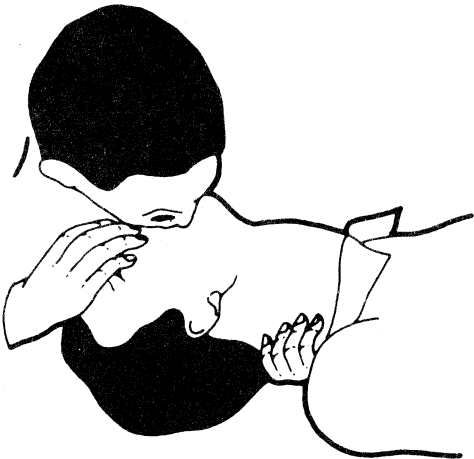

Figure 3.
- b. Open your mouth wide and take a deep breath. Make a tight seal with your mouth around the victim's mouth and blow into the victim's mouth (See Figure 3).